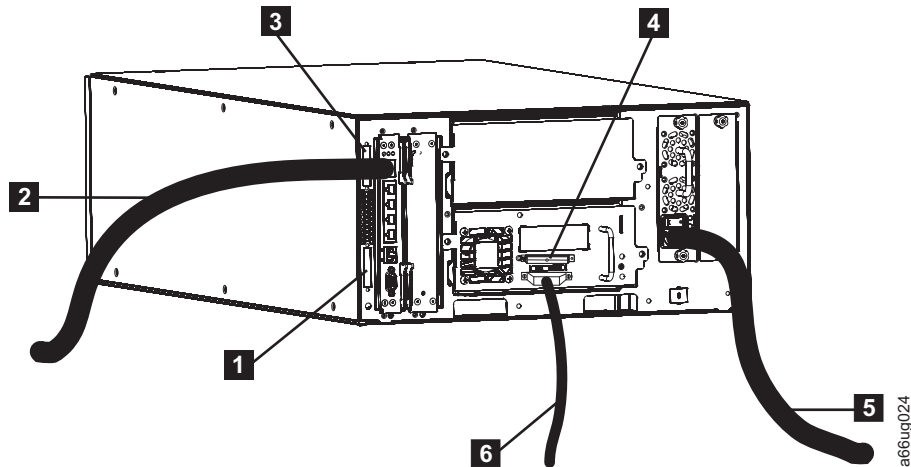

Figure 3-16. Cabling of a 5U Library with one SCSI drive
1. Install the upper module communication terminator (**3** in Figure 3-16).
2. Install the lower module communication terminator (**1** in Figure 3-16).
3. Install one end of the customer-supplied Ethernet cable (**2** in Figure 3-16) in the Library Control Blade Ethernet port, then connect the other end of the cable to your network.
- Install a SCSI terminator (**4** in Figure 3-16) in the upper receptacle of each SCSI drive in your library.
- Connect one end of a SCSI cable to the lower receptacle of each SCSI drive (**6** in Figure 3-16), then connect the other end of the cable to the host.
5. Install one end of the power cord (**5** in Figure 3-16 on page 3-18) in the receptacle in a power supply in your library, then connect the other end of the cord to your power source. Repeat this for every power supply in your library.